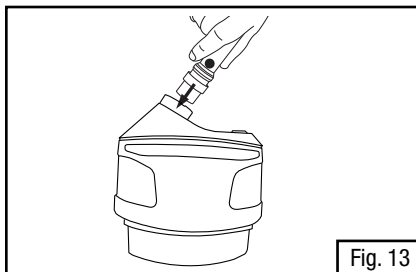

Fig. 13
- Insert the TR-970 air flow indicator into the outlet on the TR-300 motor/blower unit. If the breathing tube is in place it must be removed to allow the air flow indicator to be inserted (Fig. 13).